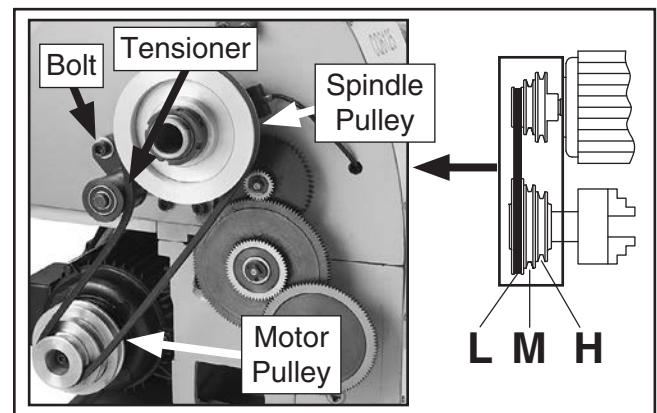

Figure 59. Positioning belt for low speed.
The V-belt is positioned on the spindle and motor pulleys with the tensioner (see **Figure 59**) to select between low (100–800 RPM), medium (160–1300 RPM), and high (250–2000 RPM) speed ranges.
3. Move the V-belt to the outer pulley sheaves to select the low speed range (100-800 RPM), as shown in **Figure 59**.